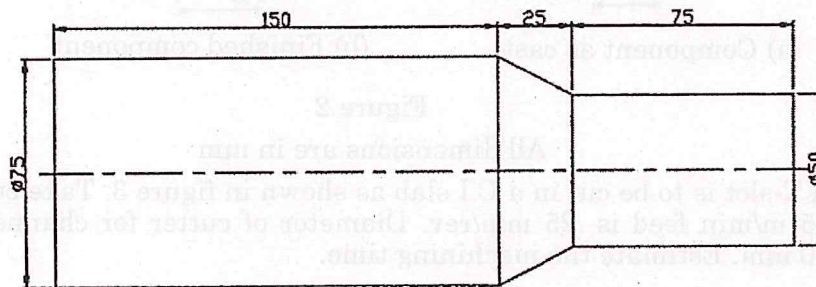

Figure 5 Cylindrical Component
16. (a) Consider the component as shown in figure 5. The component is to be made from mild steel with carbide tooling at a constant surface speed of 100 m/min. on a lathe with a maximum spindle speed of 1500 rev/min. The machining allowance is 2 mm.